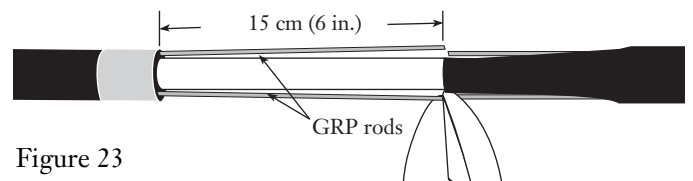

Figure 23
6.10 Use side cutters to cut the GRP rods 15 cm (6 in.) from the tape wrap. (Figure 23).